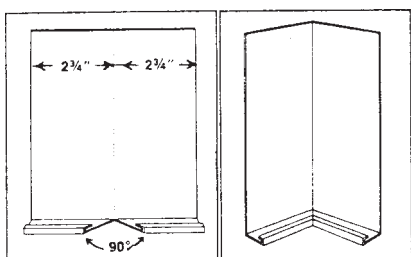

FIG. 40 Prefabricating Corner Cap
11.5.2 A corner cap can be prefabricated or fashioned from a piece of fascia cover. Cut a 5½-in. (140-mm) length of fascia cover and mark a vertical centerline on the back as shown in Fig. 40. Cut out a 90° section of bottom flange from the center, leaving 45° on each side. Using a hand seamer, fold along the centerline to form a right angle.